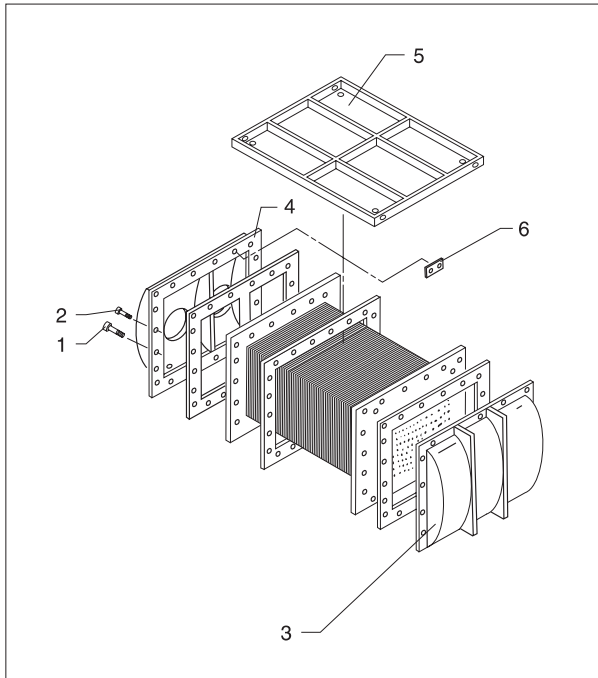

Fig 1.
2) Remove the screw (1), *fig 1*, which secure the end cover of the cooler element to the cooler housing, and pull the cooler element half-way out.